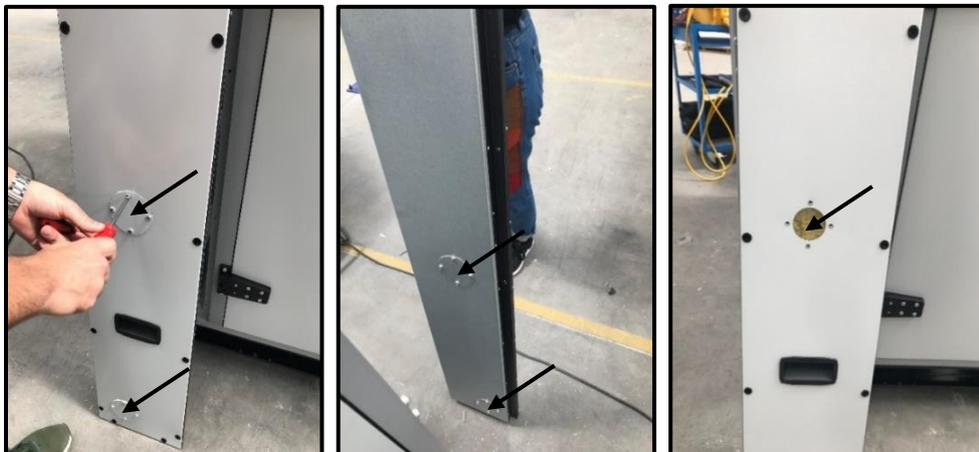

Fig. 42
2. Remove the sheet metal and rock wool on the service panel. (Fig. 42)